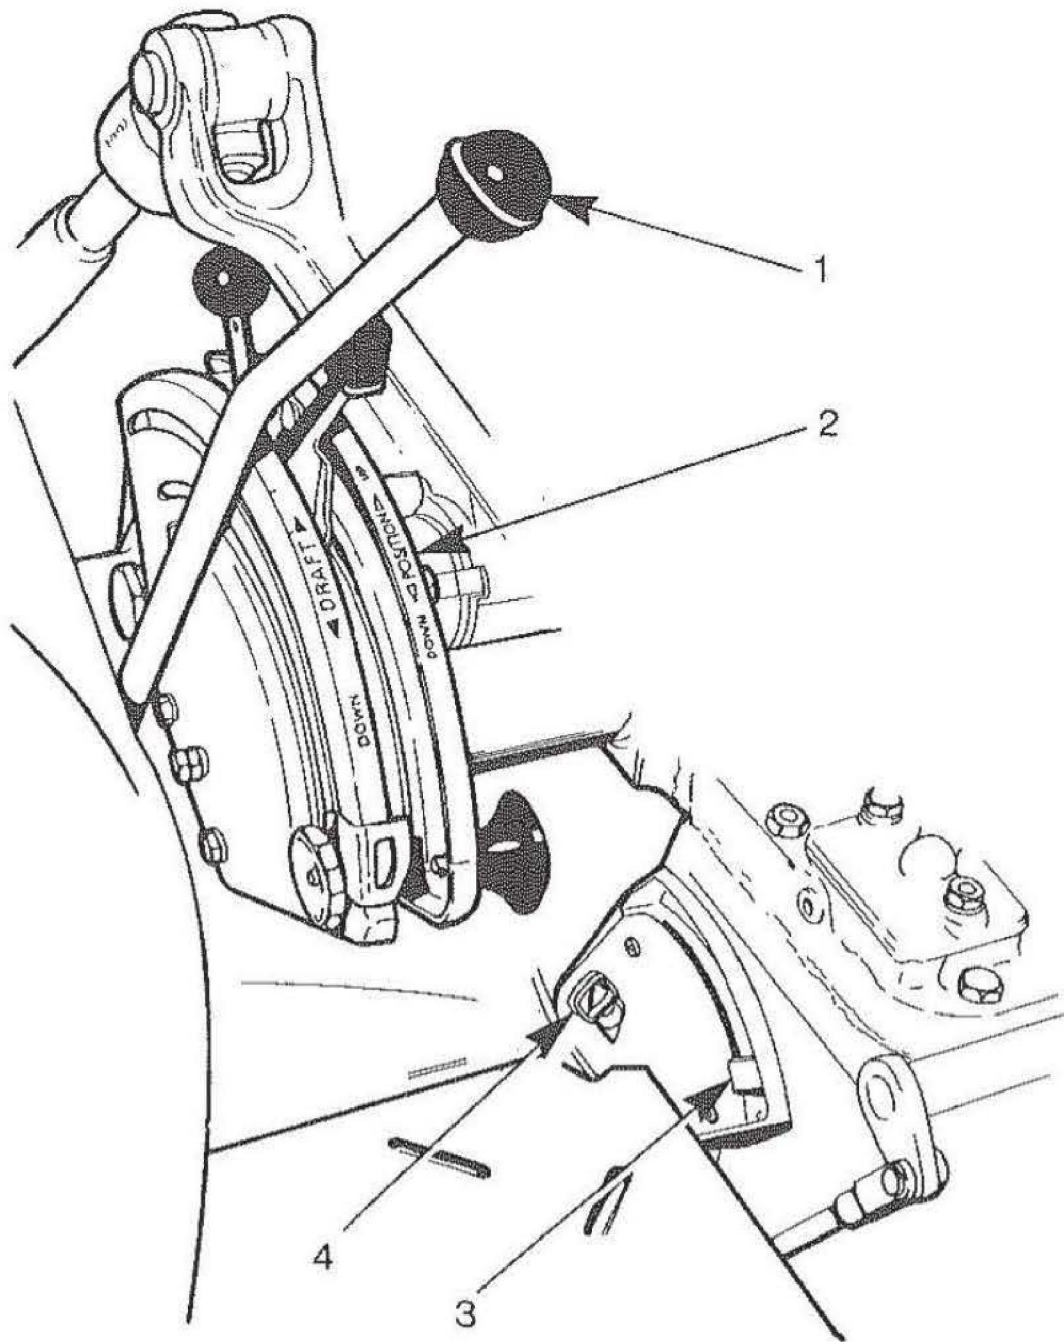

fig 22
Differential lock lever (item 1, figure 22)
Hydraulic control quadrant for 3 point linkage (item 2, figure 22)
Response control quadrant for governing the lowering speed of the 3 point linkage (item 3, figure 22)
Transmission oil level dipstick (item 4, figure 22).